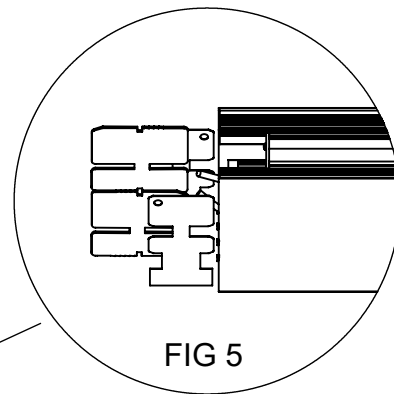

FIG 5
4. If they are not pre-installed, install light leak tabs by sliding them into the end of the fixture on the outside of the alignment plates. (See FIG 5)